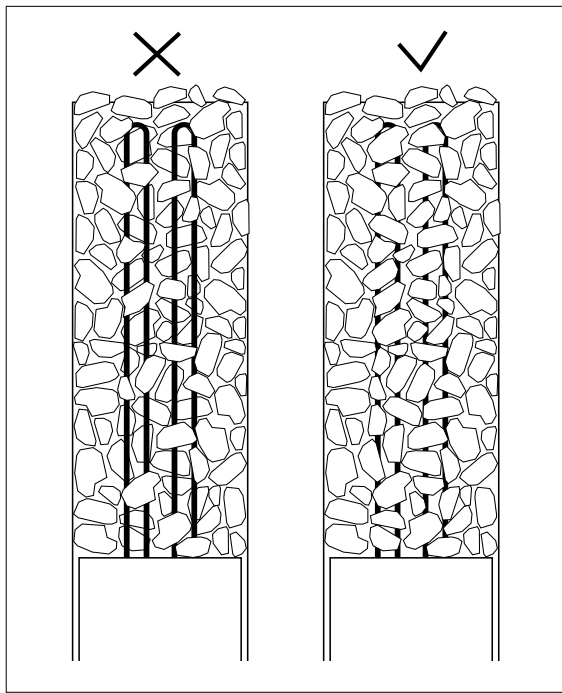

Figure 14. Placing stones
- The stones are placed as tightly as possible on the outer edge of the stone compartment so that the heating elements are not visible. A tight layer protects the surrounding materials of the heater from overheating (see Figure 14).
- Do not heap the stones on top of the heater (see Figure 14). The inspection and re-arrangement of sauna stones should be done every six months, and the stones should be replaced every 2-3 years.